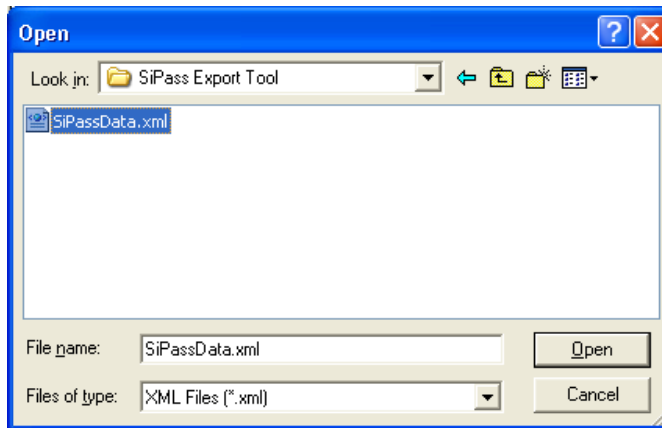

Fig 10 Selecting the SiPass XML file
- Select it and click **Open** (Fig 10)